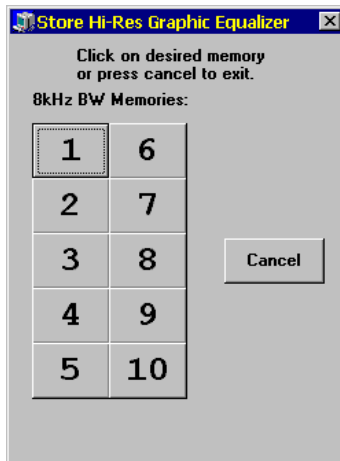

Figure 4-42 Hi-Res Filter Store Window
**Store Button:** This button allows the user to store a filter curve to any of 60 disk memories (10 for each of the six **System Bandwidth** settings) which will not be lost when the computer is turned off. Clicking this button brings up the following window (Figure 4-42):